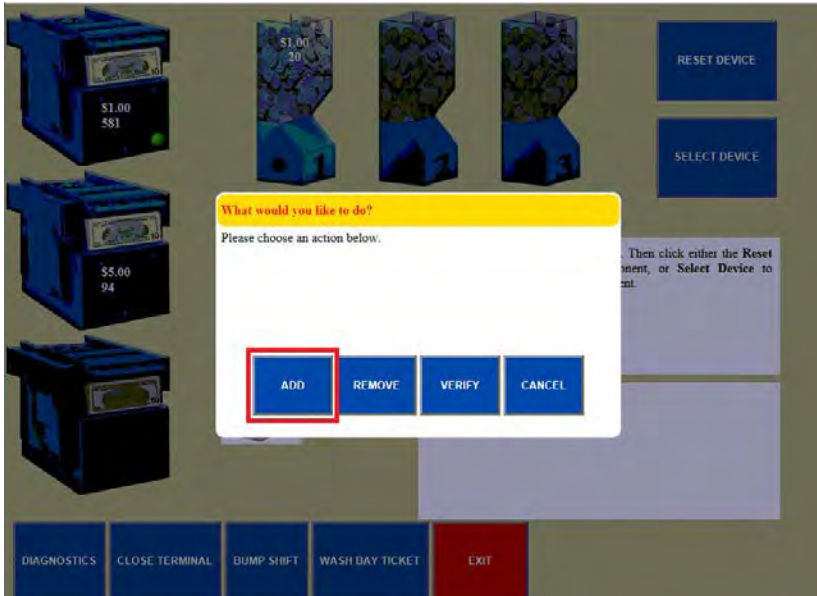

Figure 56. Choose an Action dialog box
- 3 Tap the **Select Device** button to perform an operation on the selected component. The available functions for that device will be displayed in Figure 56.